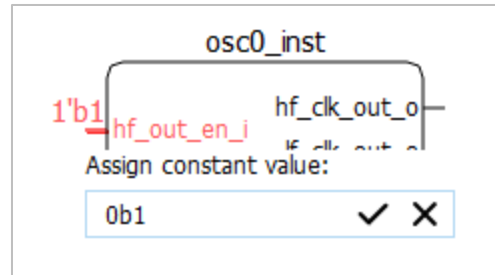

Figure 2.96. Dialog Box of Assigning Constant Value to an Input Pin
2. A small dialog box appears (Figure 2.96). Enter the desired value. To erase the value and start over, click X. For all buses (more than one pin), the format is hexadecimal. Make sure the value fits the number of pins in the bus. For example, a 3-pin bus can accept 0-7, but not 8.